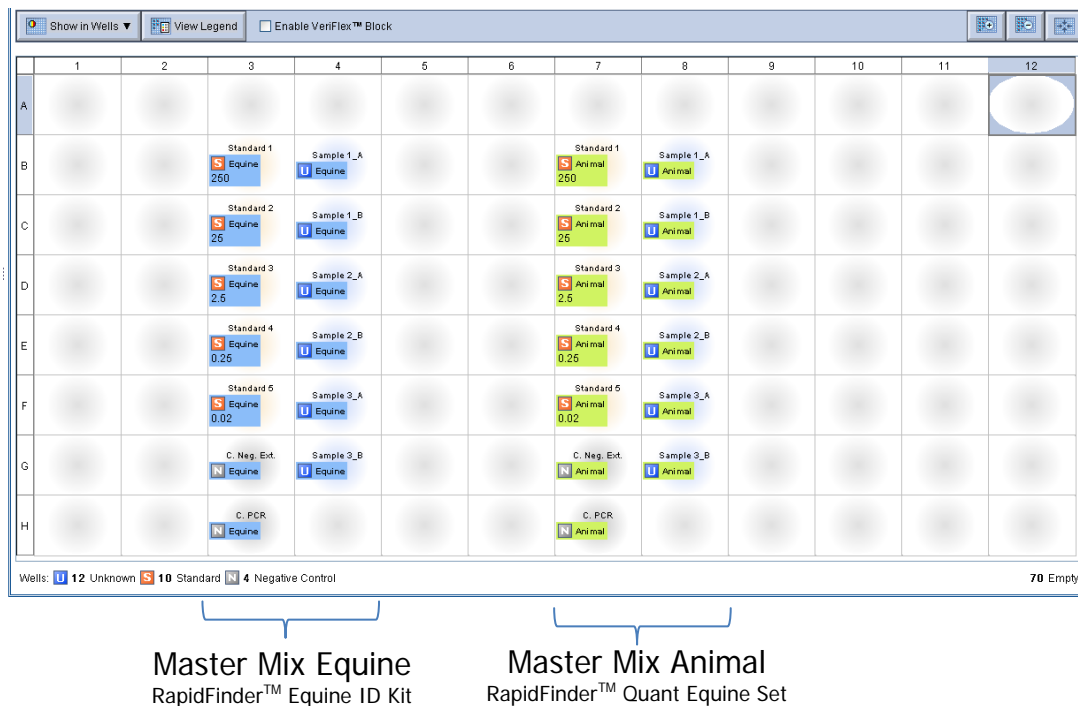

Figure 2: Proposed design analysis for 3 samples obtained from the same DNA extraction round.
3. For each reaction to be performed, mix 7.5 µL of Animal master mix with 12.5 µL of General master mix at one 1.5 ml tube. Shake on the vortex, then pipette 20 µL into each well or tube (see the example for three samples in figure 2)